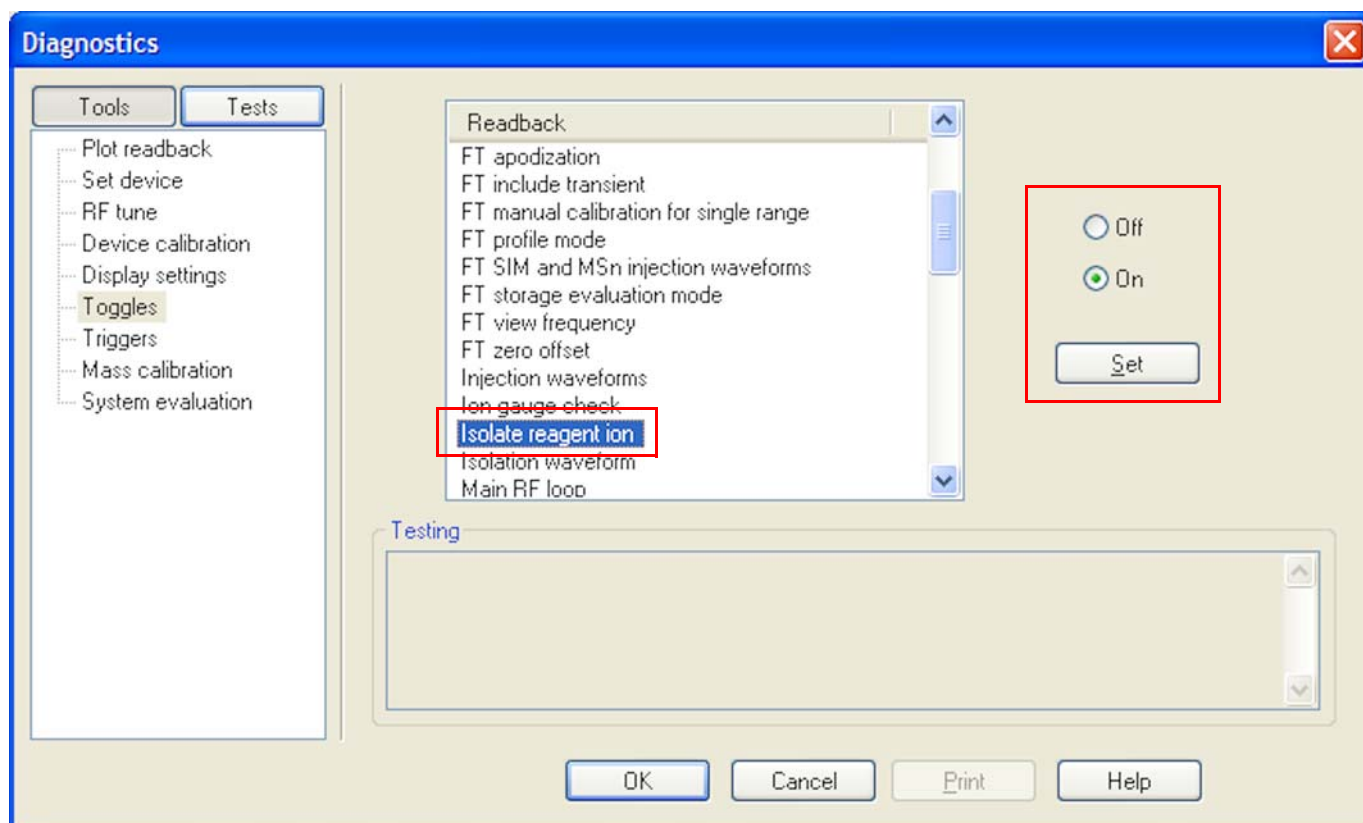

Figure 7-18. Activating Reagent Ion Isolation
2. Set **Isolate reagent ion** to On. See Figure 7-18.